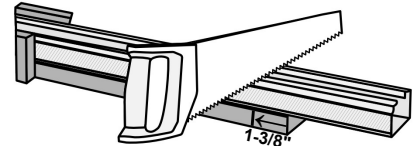

Figure 2
- Flip the header. Measure 1-3/8" from the trimmed end of the header and cut the track at this point. (see Figure 2)